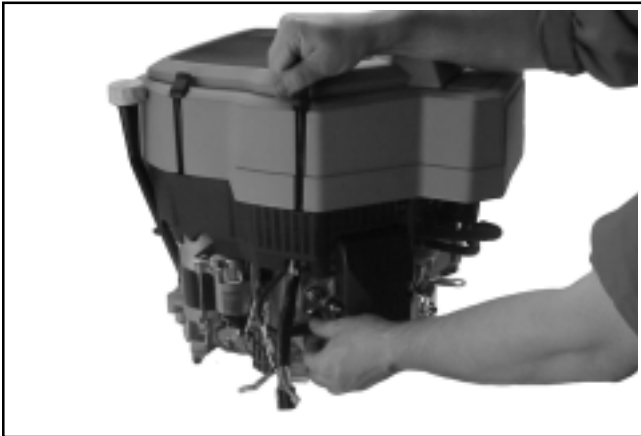

Figure 11-107. Securing Retainer Straps and Connecting Spark Plug Leads.
3. Install the upper blower housing and screen assembly. Secure with the four retainer straps. See Figure 11-107.
Connect the leads to the spark plugs. Reconnect the positive battery lead first, and the negative (-) lead last when reconnecting the battery. See Figure 11-107.